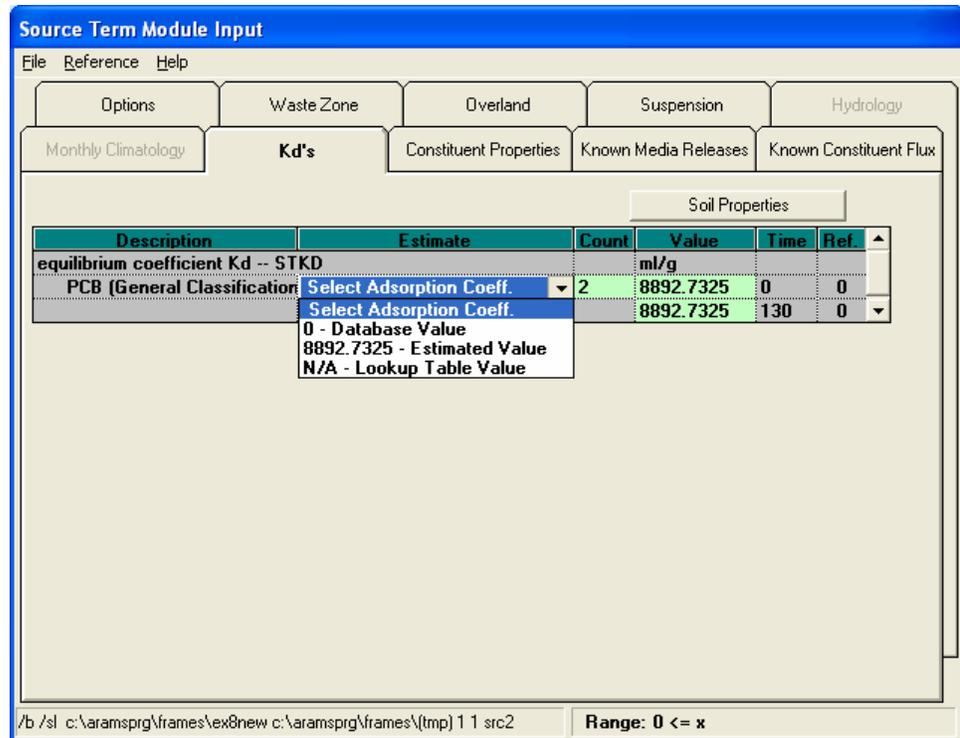
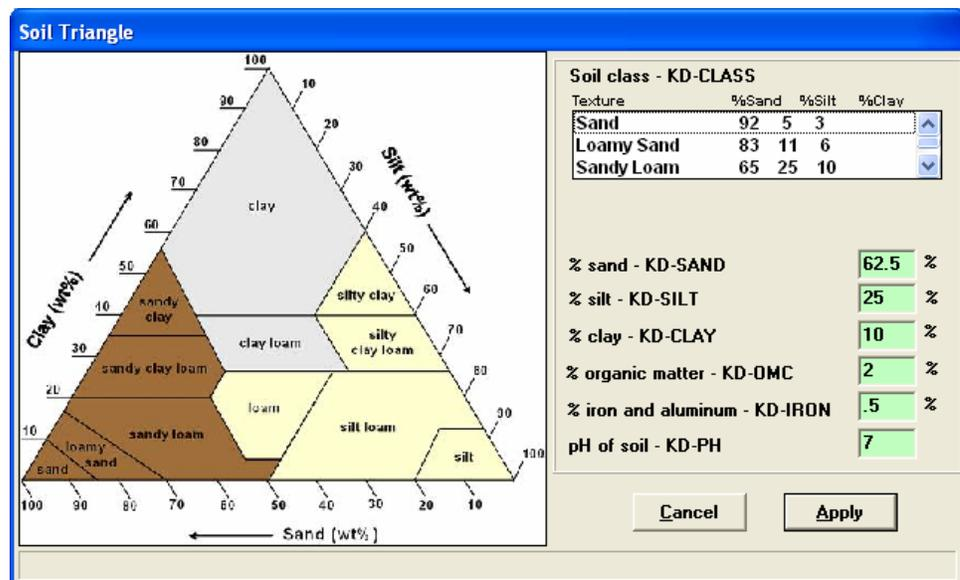

Figure 13. MEPAS Source in Soil Model – Kd's tab
Figure 14. Soil Properties Dialog
- *Kd's Tab (Soil partitioning parameters) – Figure 13*
- Set the *count* to “2”. This will allow the user to enter values for the equilibrium coefficient at two different time points. Options are available from the dropdown box as shown in Figure 13 (the value from the constituent database, an estimated value based upon soil properties, and a value from a look-up table for metals), and the user can enter values directly in the *Value* field. The value is shown first followed by the source of the data. The estimated value will be used in this example. The user must click the “Soil Properties” button, and the form shown in Figure 14 will appear. Values should be entered such that they equal 100 percent. Note that the type of soil could also be chosen from the list at the top right corner of the form. Making a selection from this list will automatically fill in the percentage of each component in the soil. Values shown in Figure 14 should be entered, “Apply” should be clicked, and the “estimated” values of 8892.7 ml/g should be used as shown in Figure 13.